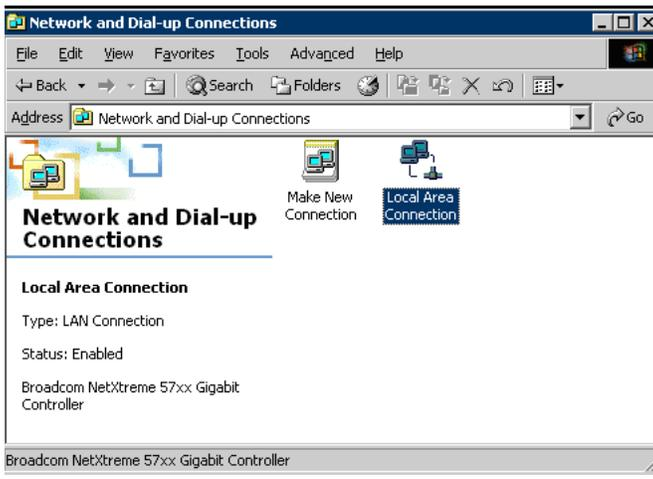

Fig. 11. Network and Dial-up Connections Window.
1. Open the **Network and Dial-up Connections** window. (Location: **Start > Programs > Accessories > Communications**). The window shown in Fig. 11 should appear.